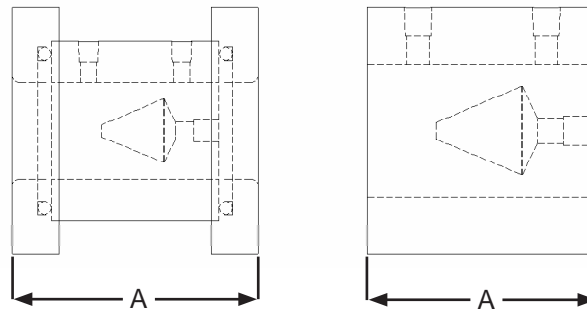

Figure: 7
**NOTE:** Reducing adapters are available to allow the use of meters smaller than the pipe size in certain applications. Using reducing adapters with a smaller meter does not increase the laying length for the original pipe size. Dimension "A" for the two meters shown above are identical (**Figure 7**).